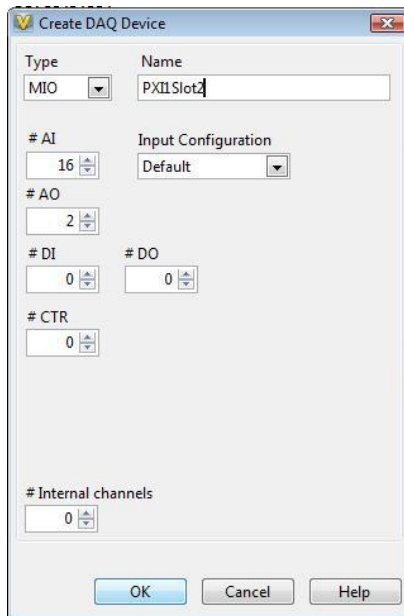

Figure 5-18
4. Make sure that the device type is MIO. Type in the name "PXI1Slot2". This name must be the same as it is in MAX. Click OK. See Figure 5-18.